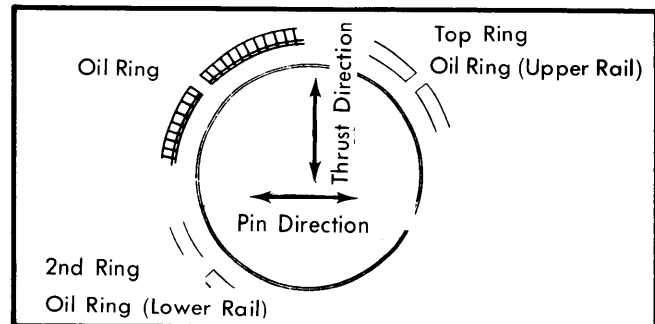

Fig. 5 Piston Ring Gap Positioning
2) To install piston and connecting rod assembly, thoroughly oil rings, piston and cylinder wall. Make sure ring gaps are situated approximately 180° apart and not on thrust side of piston. See Fig. 5. Make sure bearing halves are properly seated in connecting rod and cap.